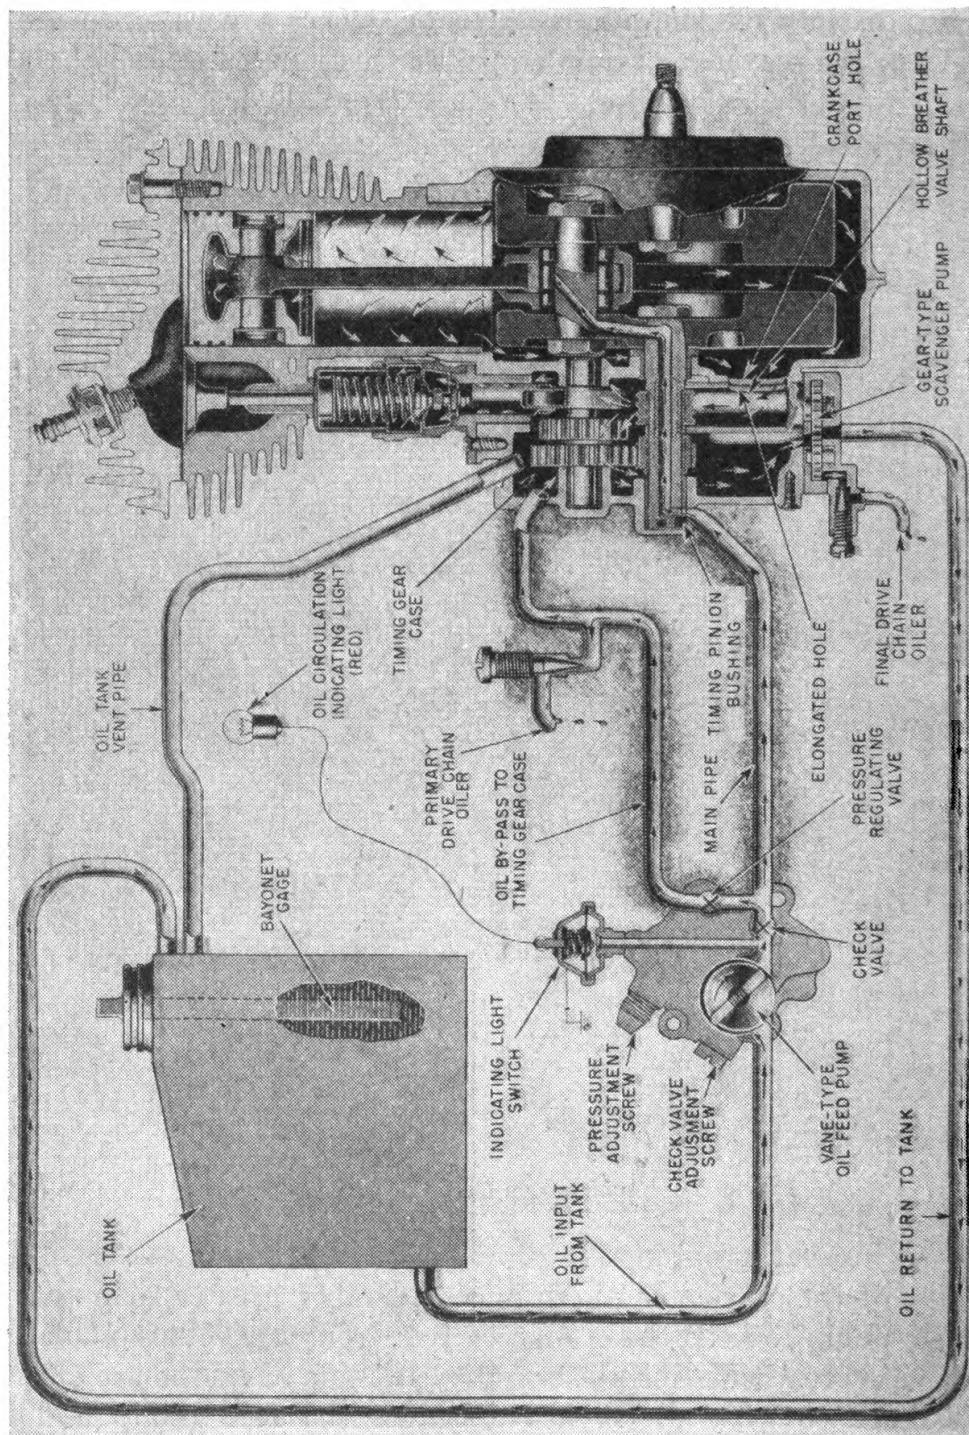

FIGURE 68.—Lubrication system of engine with separate feed and scavenger pumps.
e. Figure 68 (Harley-Davidson) shows the feed pump and the scavenger pump as separate units. The feed pump is a vane-type unit. A rotor, driven by the rear exhaust cam gear, causes two sliding blades (vanes) to revolve within a slightly eccentric chamber. The